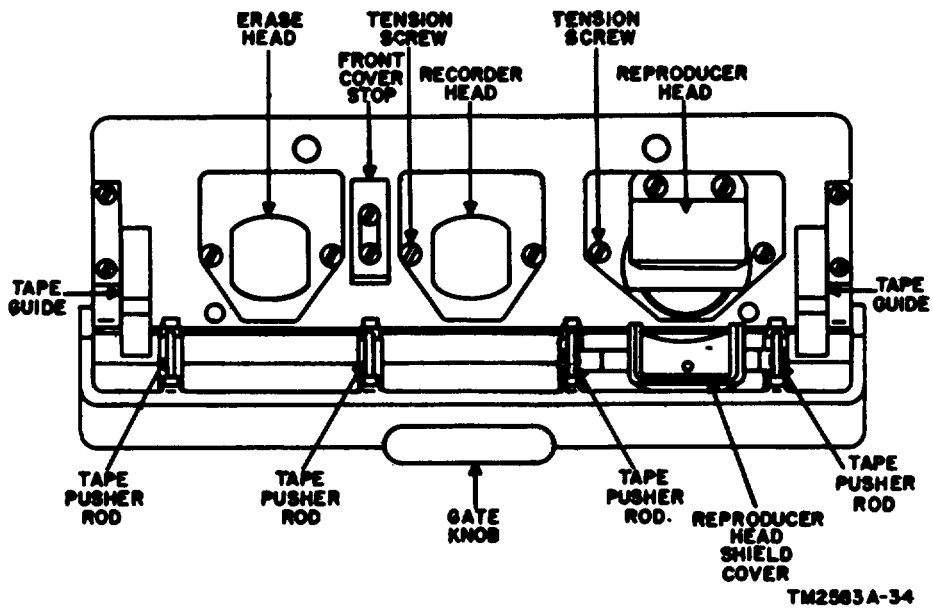

Figure 38. Sound head assembly.
74. Replacement of Sound Head Assembly (fig. 38)